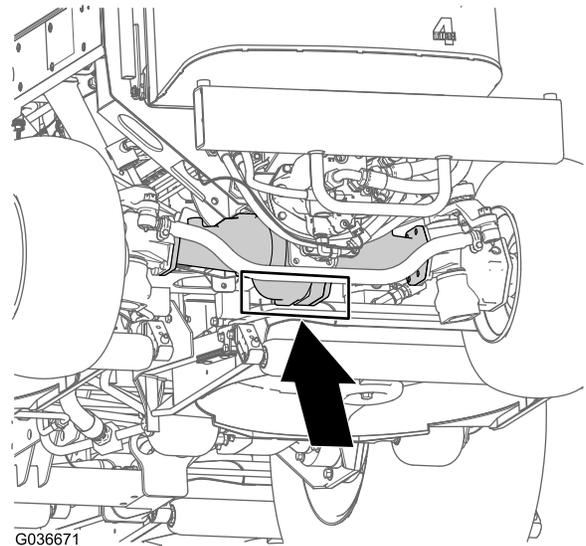

Figure 47
**Rear of the machine**—at the center of the axle (Figure 47)